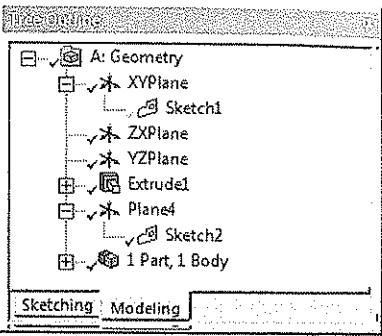

Figure 4-61 Sketch2 attached to the Plane4 node in the Tree Outline
- 2. Choose the **New Sketch** tool in the **Active Plane/Sketch** toolbar; **Sketch2** is added under the **Plane4** node in the **Tree Outline**, as shown in Figure 4-61. *